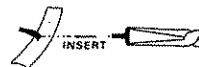

FIGURE 8
- Using long-nose pliers, grab the head of the locking pin and insert into hole located on the side of the smoke alarm (see Figure 8).